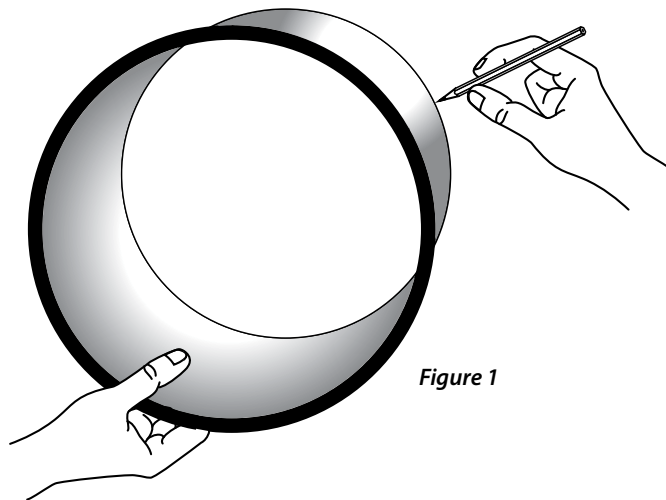

Figure 1
1. Place the metal sleeve (without the grille attached) against the wall with the flanged edge facing you. Trace the pipe on the outside with a pencil to mark the cutout. (Figure 1)